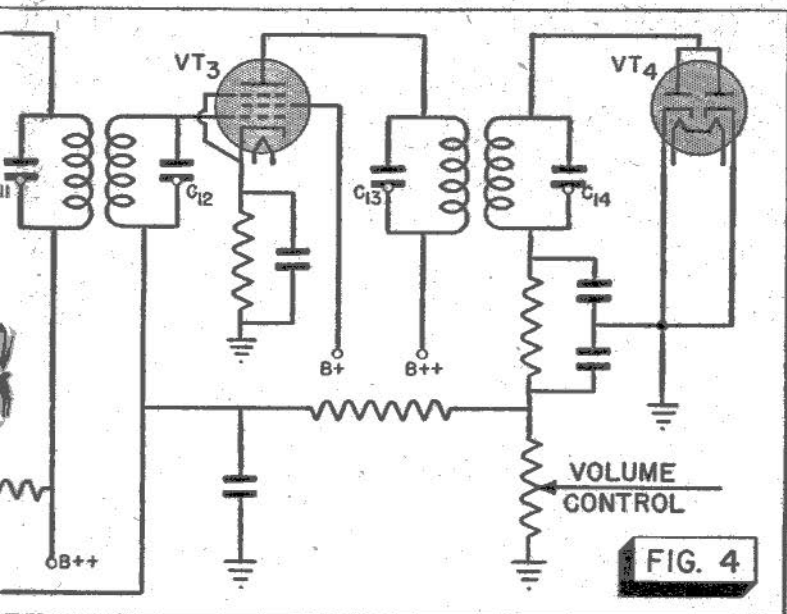

FIG. 4
**Circuit Disturbance.** Let's use the typical r.f.-i.f. section shown in Fig. 4 to show how to locate the defective stage. If the tubes in the r.f.-i.f. section have top caps, make the circuit disturbance test by removing and replacing the top caps on the tubes, one at a time, starting with  $VT_2$  and working back to  $VT_1$ . If everything is in good condition, you should hear a fairly loud click or thump when you remove and when you replace each top cap. If you do not hear the click, the stage you are testing is defective.
To make voltmeter tests in the circuit of Fig. 4, first check the voltage between the plate of VT3 and the chassis (connecting the positive voltmeter probe to the plate terminal of the tube). If you measure normal voltage, but do not get a click of normal intensity in the loudspeaker, the defect must lie between the plate of VT3 and the volume control. If you do not measure normal voltage, very likely there is a defect in the plate circuit of the tube. Next, measure between the plate of VT2 and the chassis. A click should be produced. Finally, measure the voltage between the plate of VT1 and the chassis; again, a click should be produced. No click means that the defect is between the plate of the tube being tested and the plate of the tube next nearest the loudspeaker.
To make tests on the receiver circuit shown in Fig. 4, connect an output meter to the set, turn on the receiver, set the volume control for maximum output, and set the s.g. attenuator for maximum output. Clip the ground lead of the s.g. to the chassis.